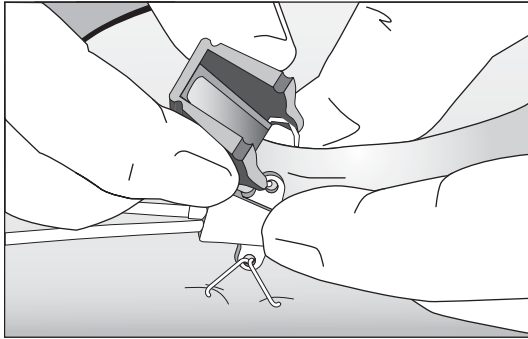

Figure 24
- Pass staple point through eye of catheter suture hub (refer to Figure 24).